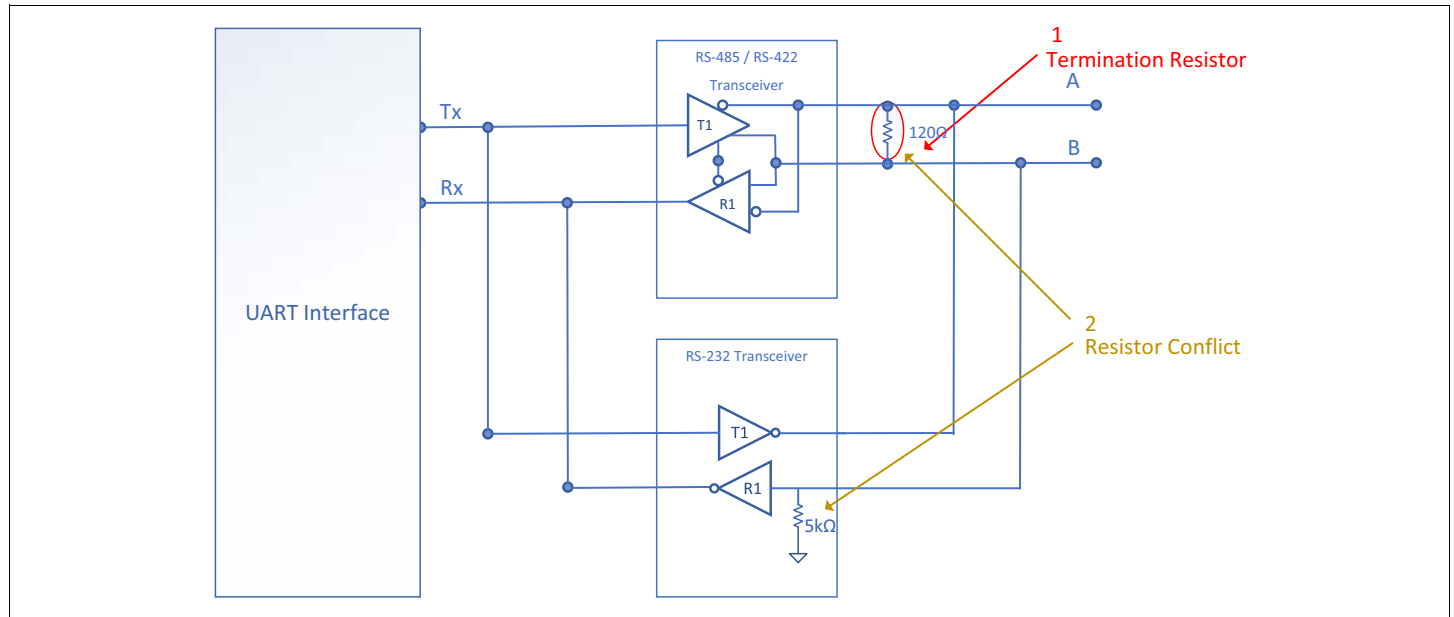

Figure 2: Multi-Protocol Design Block Diagram using Standard Transceivers over Shared Data Bus
- RS-485 termination (number 1 in Figure 2). For more information, see "Disconnection of RS-485 Termination Resistor, Driver, and Receiver".
- The fact that the driver and the receiver must be disconnected when switching from RS-485 to RS-232 (number 2 in Figure 2). For more information, see "Disconnection of RS-485 Termination Resistor, Driver, and Receiver".